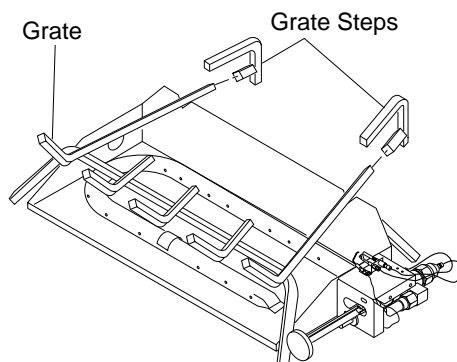

Figure 18 - Installing Grate (Pan Material Not Shown)
1. Place the grate over the burner pan where the two outer horizontal supports on the grate fit into the two pan positioning notches in the rear vertical edge of the pan (see Figure 18).
2. Slide the two rear log grate steps over the two outer horizontal supports on the grate as shown in Figure 18.